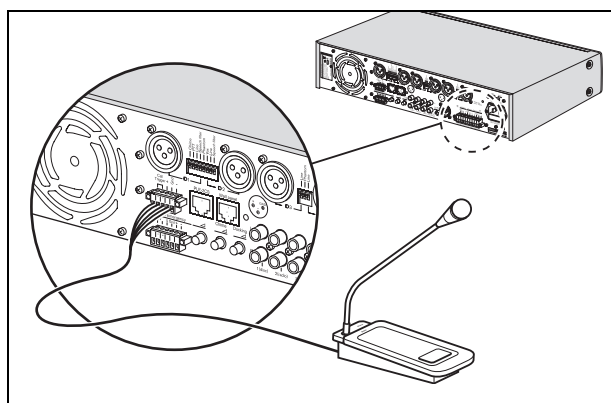

figure 4.4: Euro connector with trigger
- Euro connector with trigger. See figure 4.4.